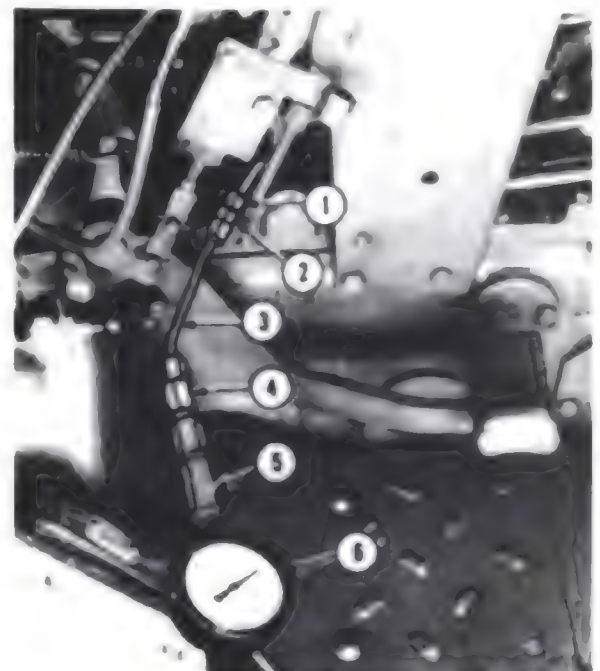

Fig. 104 - Install test gage in test port of multi-valve to check charge pressure.
**92. CHARGE PUMP PRESSURE AND FLOW.** Adequate charge pump pressure and flow are necessary for an efficient operation of the hydrostatic unit. To check charge pump pressure and flow, support rear of tractor so both rear wheels are free to rotate. Operate tractor until transmission oil is warmed to 135°F. Stop engine and connect a 600 psi test gage to the test port in the top of the multi-valve as shown in Fig. 104. Start engine and operate at 700-750 rpm. With the S-R lever in neutral, charge pressure should be 190-230 psi. Move S-R lever to place hydrostatic pump in stroke position and charge pressure should be 80-130 psi.